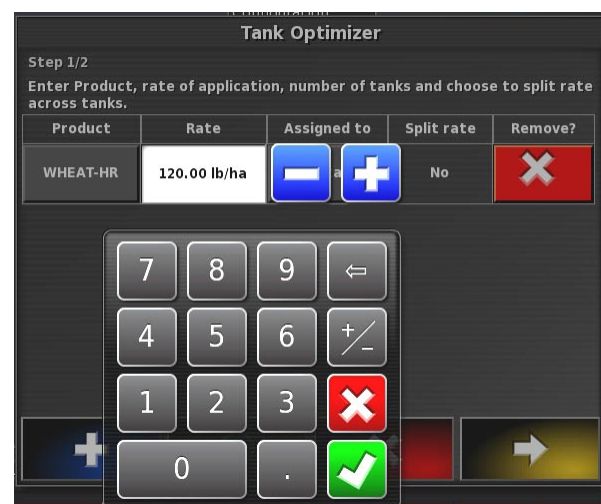

Figure 8.12 - Enter Application Rate
3. Refer to *Figure 8.12*. Enter product application rate.